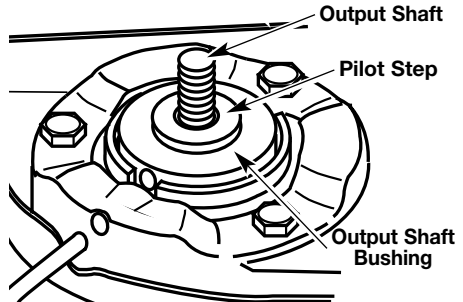

Fig. 11
4. Center the cutting blade on the pilot step of the output shaft bushing (Fig. 11).